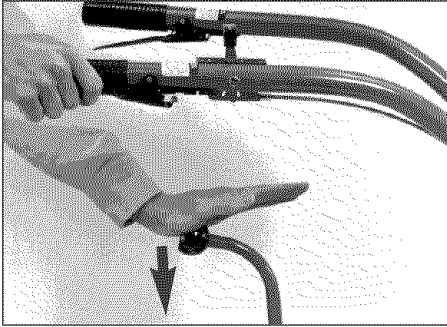

Figure 4-3: Moving tiller forward: squeeze one Forward Interlock Lever and then move Wheels/Tines/PTO Drive Lever down to FORWARD.
5. To move the tiller forward and engage the tines, squeeze and hold either Forward Interlock Lever (Figure 4-3) against the handlebar grip, then move the Wheels/Tines/PTO Drive Lever down to FORWARD position.
5. Squeeze and hold just one of the Forward Interlock Levers against the handlebar grip while moving the Wheels/Tines/PTO Drive Lever down to FORWARD (Figure 4-3). As the tiller moves forward, release the Forward Interlock Lever briefly. The engine should start to stall out if the interlock system is working properly. If it does start to stall, quickly squeeze the lever up against the handlebar grip, and then return the Wheels/Tines/PTO Drive Lever to NEUTRAL. Repeat this test to check that the engine begins to stall out when the other Forward Interlock Lever is released.